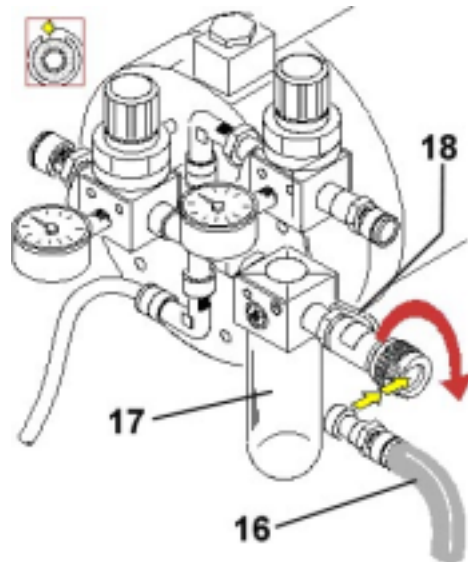

Fig.20
9 Attach the compressed air feed pipe (16) (fig. 20) from the air-line (use dehumidified air only). Connection must come about in the absence of air. The joint mounted onto the air control (17) group is of a bayonet type: tools are not required to carry out this connection.
**Before connection make sure that the tap (18) of the air inlet filter is “closed”.**